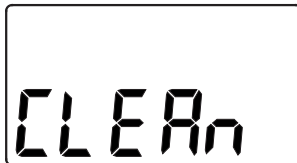

FIG. 30
- **Light flashing, with "CLEAN" flashing in the display** (See Fig. 30) - Four months have elapsed on the system's timer since start up or the last reset.